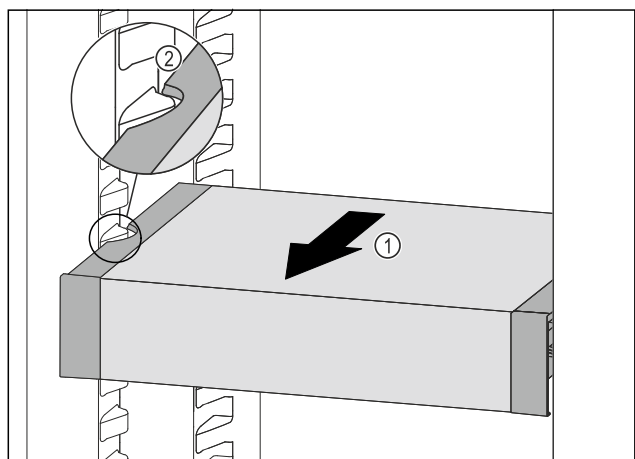

Fig. 136
- ▶ Pull VarioSafe forwards *Fig. 136 (1)* until the recesses in the side of the VarioSafe are at the level of the support rib in the fridge section. *Fig. 136 (2)*